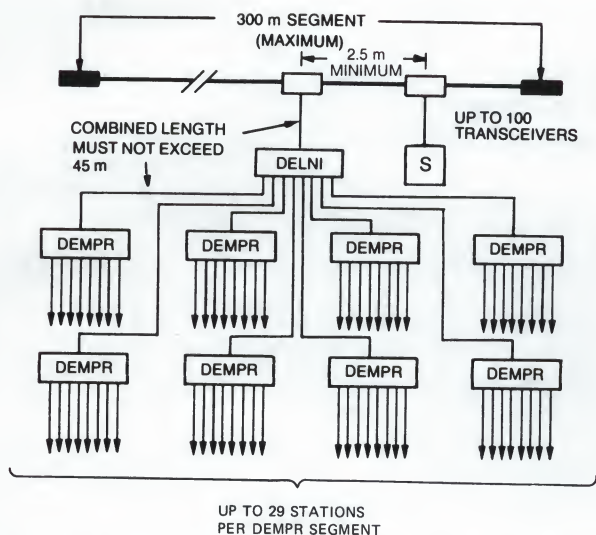

Figure A-13 ▪ DELNI/DEMPR Combination on a Standard Ethernet Coaxial Cable
- When a DELNI is installed between a transceiver and a DEMPR (Figure A-13), the Standard Ethernet cable segment to which it is attached must not exceed 300 meters (984 feet).